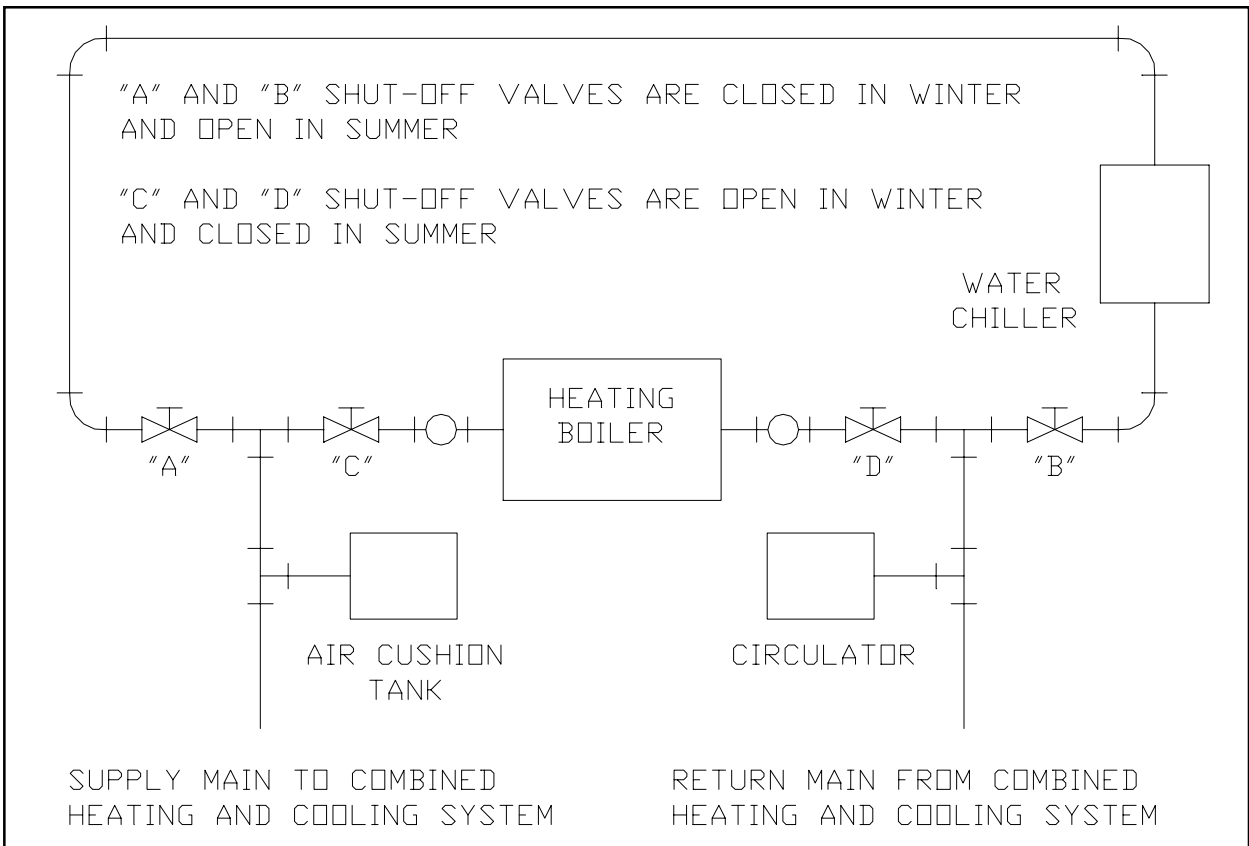

Figure 7: Recommended Piping for Combination Heating and Cooling (Refrigeration) System
- a. If this boiler is used in connection with refrigeration systems, the boiler must be installed so that the chilled medium is piped in parallel with the heating boiler using appropriate valves to prevent the chilled medium from entering the boiler. See Figure 7. Also, consult I=B=R Installation and Piping Guides.